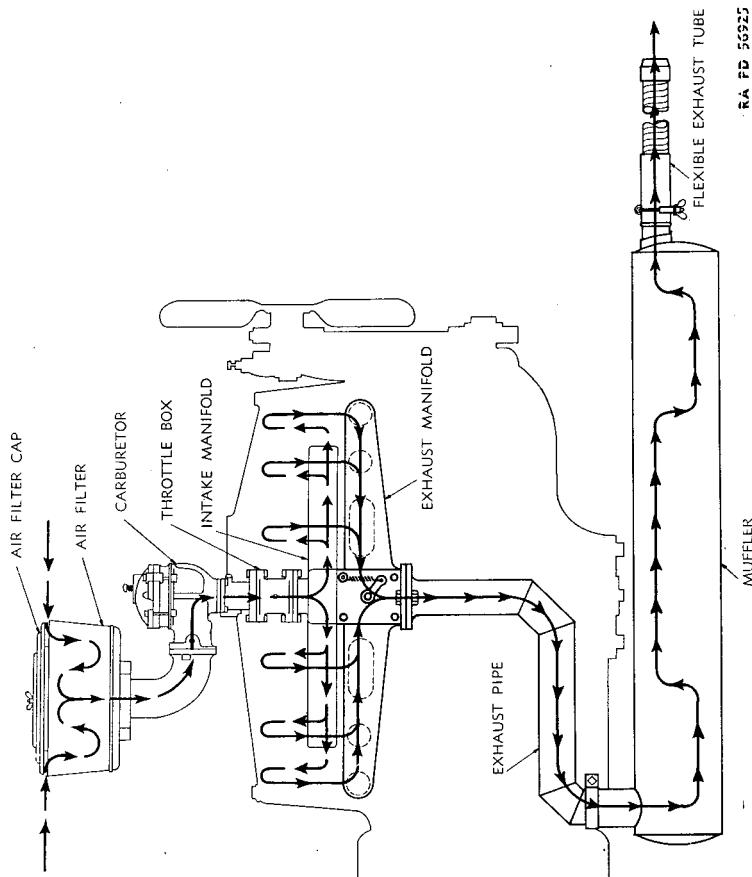

Figure 31—Intake and Exhaust System Diagram (Broken Arrows, Intake Air—Solid Arrows, Exhaust Gas.)
a. **Construction.** The exhaust system (fig. 31) is made up of the exhaust section of the manifold, the pipe connection between muffler and manifold, the muffler (fig. 36), and the flexible tube that is attached to the outside end of the muffler when the unit is in operation.